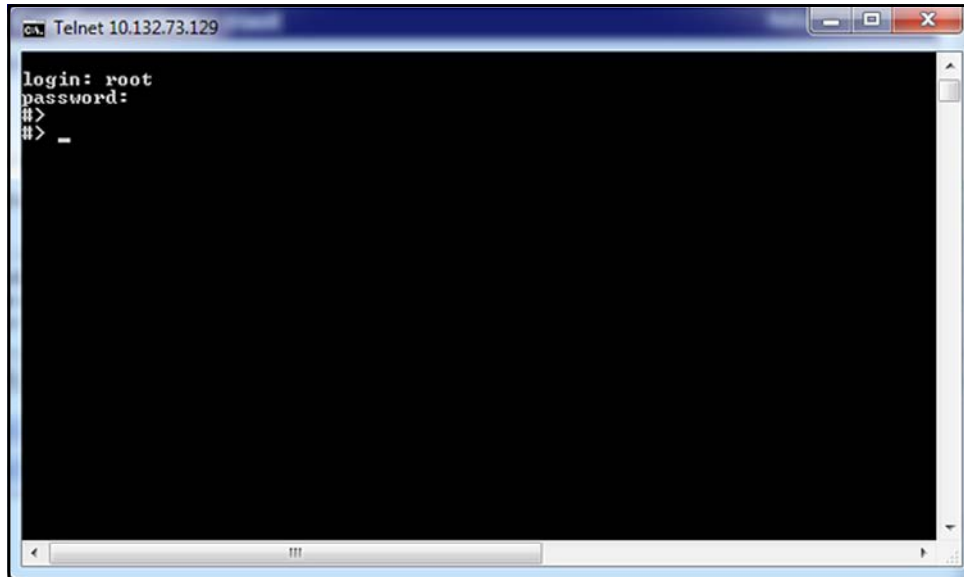

Figure 117: Telnet Login
3. At the module **login:** prompt, log in using the root account. Your password will not be echoed back. Upon successful login, the **#>** module prompt is displayed (see Figure 117 below).